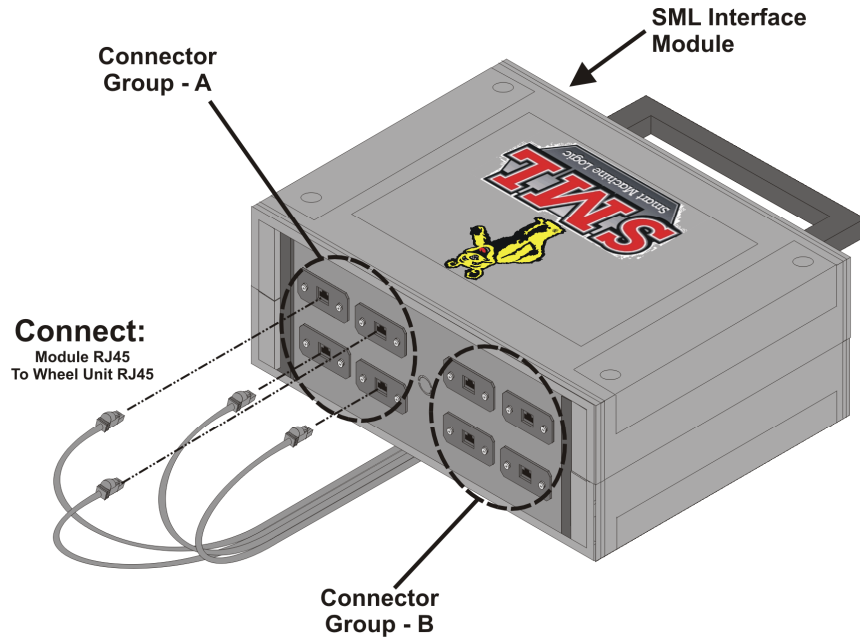

Figure 1-8. Module Connections - Rear Panel
1.3.3.2 Using Figure 1-8 as a guide, connect cables to the rear panel of the SML Interface Module, as follows: